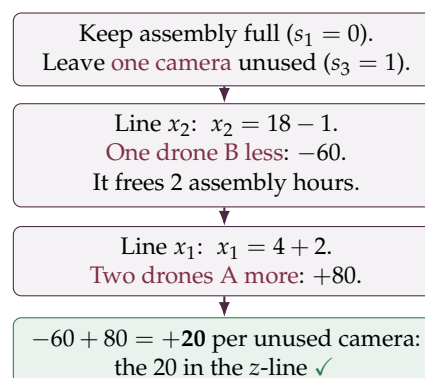

Figure 13: The meaning of the $+20$ in the z -line at the corner C.
1. Who enters? The coefficient of s_3 is positive: s_3 **enters**. A slack can enter too! But s_3 is the number of *unused cameras*. Why would we leave cameras unused? The dictionary explains it (Figure 13). Keep the assembly fully used ($s_1 = 0$) and leave one camera unused ($s_3 = 1$):